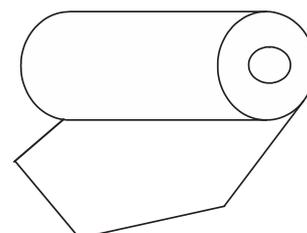

Figure 5
- 2) Trim the front of paper into a V shape, shown as figure 5